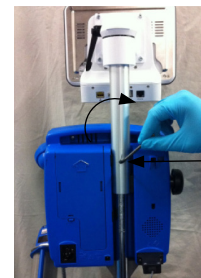

Figure 8b
- 3b. Resecure the **LCD HANDLE** by rotating it clockwise as shown in **Figure 8b**.